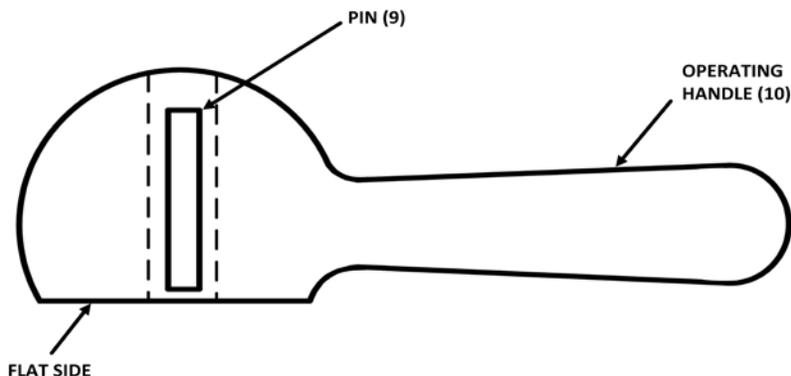

Figure 7. Spring Pin Installation
- e) Put bushing (18) onto handle shaft (27).
- f) Put new wiper (12) onto handle shaft (27).
- g) Put flat washer (11) onto handle shaft (27).
- h) Put operating handle (10) onto handle shaft (27) and align holes on operating handle (10) with hole on handle shaft (27).
- i) Press spring pin (9) through hole of operating handle (10) and handle shaft (27).
Note: The pin (9), see Figure 7, must be flush or the flat side on operating handle (IPL Figure 1, 10).
- 5) Put links (36) onto crank (35) and install one clevis pin (34), one washer (33) and secure with new cotter pin (32).